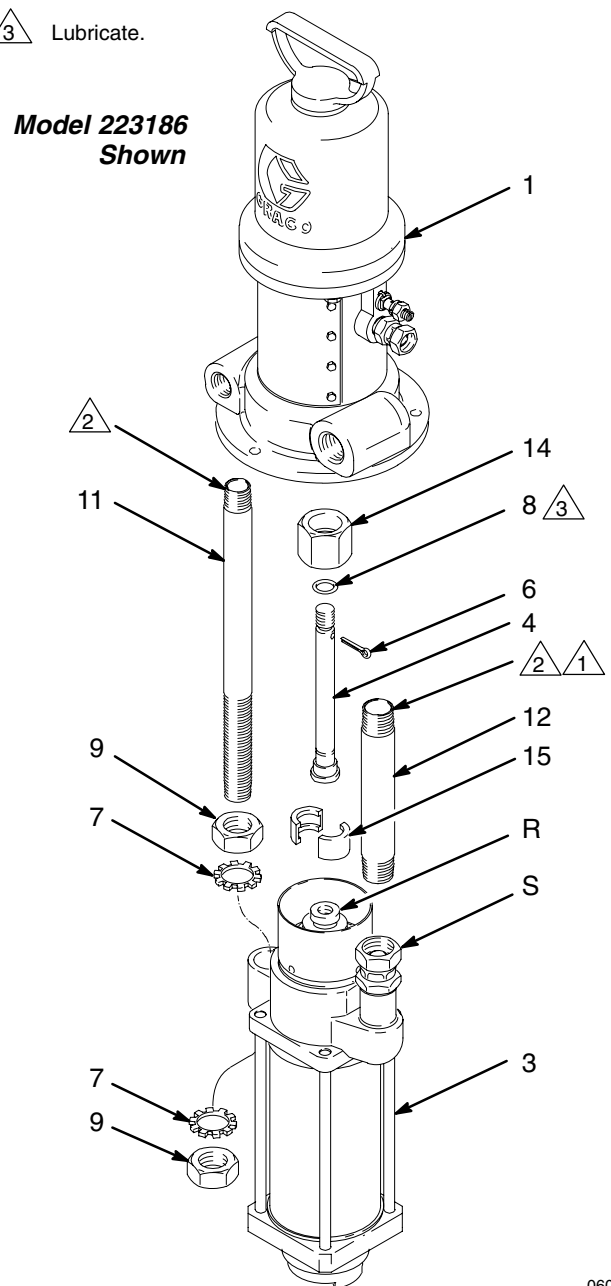

Fig. 4
3. Unscrew the coupling nut (14) from the displacement rod (R). Remove the coupling collars (15). See Fig. 4.
4. Unscrew the lower locknut (9) and lockwasher (7) from the return mounting tube (11).
5. Unscrew the swivel union (S) from the supply mounting tube (12).
1. Position the displacement pump on the mounting tubes (11, 12). Thread the upper locknut (9) onto the return mounting tube (11) a couple of turns. Tighten the swivel union (S) securely onto the supply mounting tube (12). See Fig. 4.
2. Butt the connecting rod (4) and displacement rod (R) together; if necessary, adjust the locknuts (9) on the return mounting tube (11) to align the rods.
3. Position the coupling collars (15) so they engage with the connecting rod (4) and displacement rod (R). Lower the coupling nut (14) over the coupling collars and screw it securely onto the displacement rod.
4. Tighten the locknuts (9) securely.
6. Turn on the air to the motor and run the pump slowly. Adjust the locknuts (9) on the return mounting tube (11) as necessary until the pump operates smoothly at minimum air pressure to the motor. Tighten the locknuts securely.